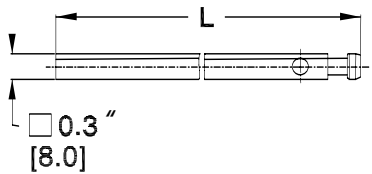

Figure 5. Cutting the extension shaft to the proper length.
- b. Cut the extension shaft [9] to the required length "L" as illustrated in Figure 5.